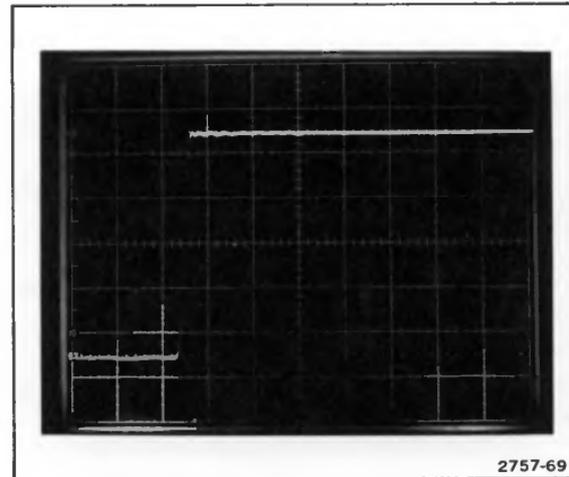

Figure 4-1. Typical display when high-frequency compensation is correctly adjusted.
e. CHECK—Flat-top display aberrations are within 4% (±0.2 division). See Figure 4-1 for typical display.
c. CHECK—Flat-top display aberrations are with 4% (± 0.2 division). See Figure 4-1 for typical display.